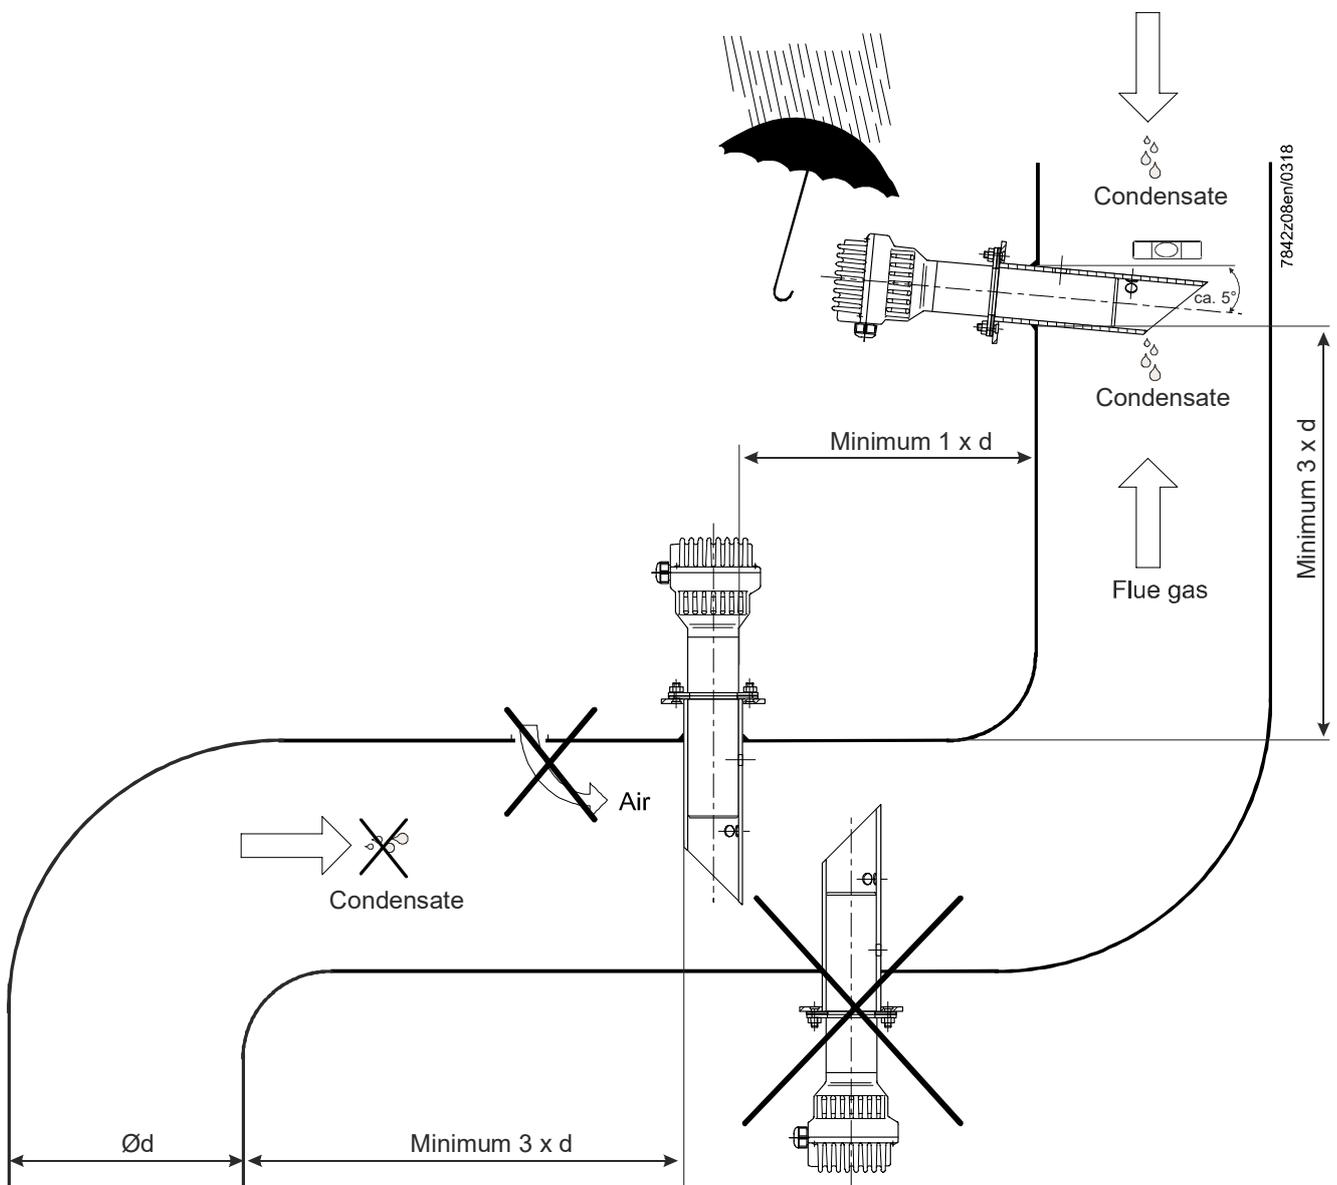

Figure 7: Mounting position of QGO20
1. Collection of flue gases and passing them to the sensor (Figure 7), adapting the sensor to the chimney.
For mounting position, refer to Mounting Instructions M7842 (4 319 2366 0). To reduce the response time in the case of low flow rate, the AGO20 can also be mounted in an inclined position (Figure 7). It must be ensured that the hole closest to the sensor head protrudes into the chimney.